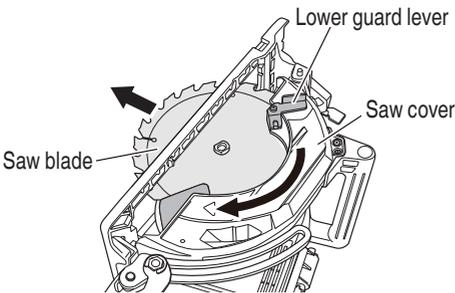

Fig. 16
- (2) Depress the lock lever, lock the spindle, and remove the hexagonal flange bolt and washer (B) with the wrench.
- (3) While holding the lower guard lever to keep the lower guard fully retracted into the saw cover, remove the saw blade (Fig. 16).